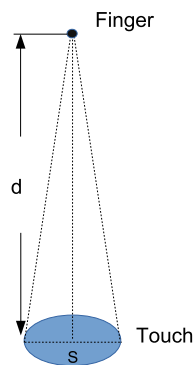

Figure 39-6. Sensing Area
- The maximum detection distance (d) is 16 cm with a sensing area of 20 cm^2 (S), where d is positively correlated with S as shown in Figure 39-6.